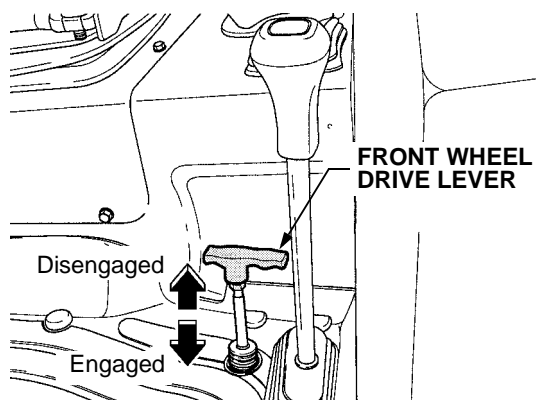

Figure 15
- To engage the front wheel drive mechanism, depress the clutch pedal and push the front wheel drive lever downward. See Figure 15.